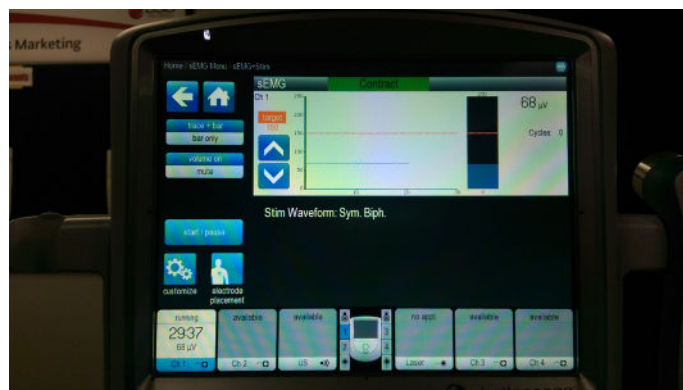

FIGURE 9
9. The Audio Signal Generator and the attenuator should trigger the stim function of the Therapy System and Running will display in the selected channel. See **Figure 9**.